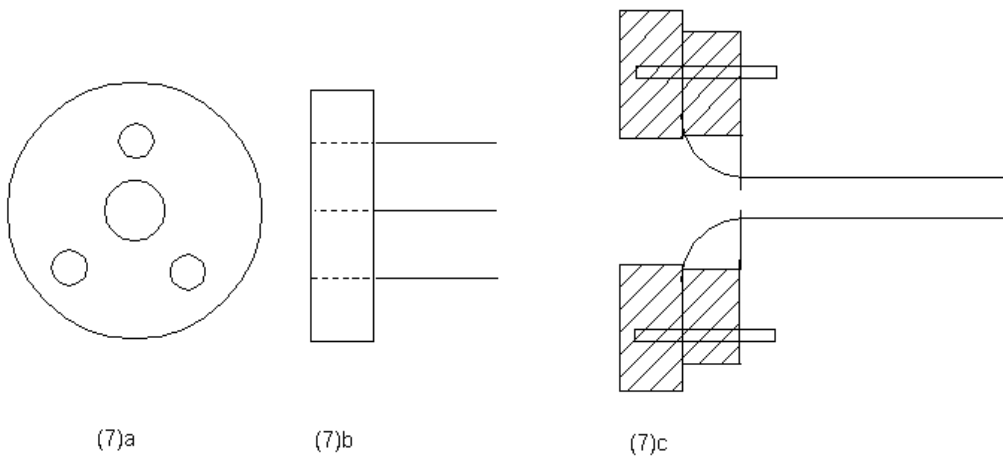

Figure 1 Reynolds Experiment
Fully assembled experimental apparatus is shown in Fig 1. The apparatus consist of a large rectangular tank (2), containing a mechanism (4) to adjust liquid level in the tank, a honey comb structure (6) to suppress the turbulence caused by the incoming water.